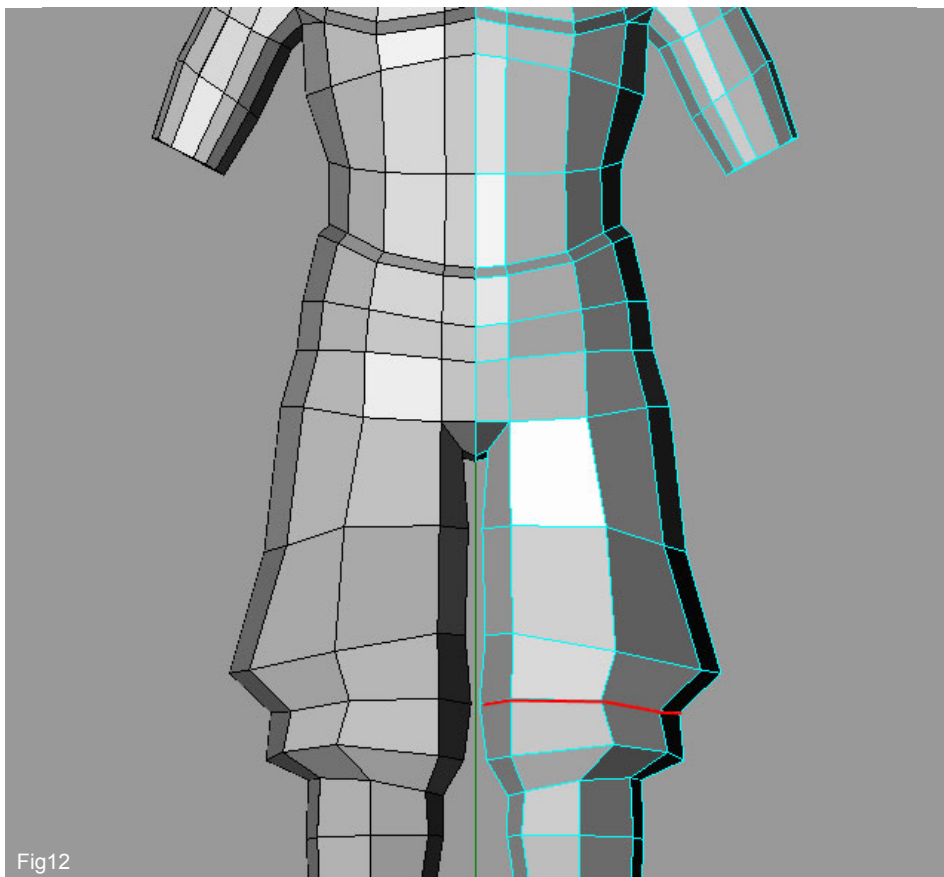

Fig12
12. Add now a cut like shown in Fig12.